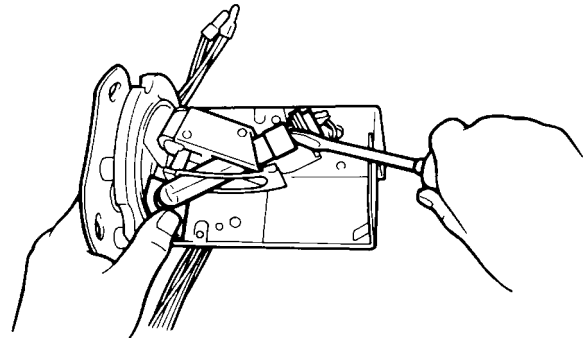
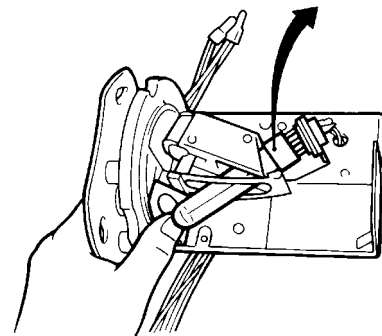

Fig.3
Fig.4
- (1) Turn OFF the power supply switch.
- (2) Remove the cover mounting screws (4 pieces) and the cover from the detector.
- (3) On the C7012E, gently bend the alignment guide, to free the tip of the tube.
- (4) Insert a screwdriver between the tube base and socket, and gently pry the tube out of its socket(Fig.3). Pull the tube out of its socket to the direction of the arrow(Fig.4).